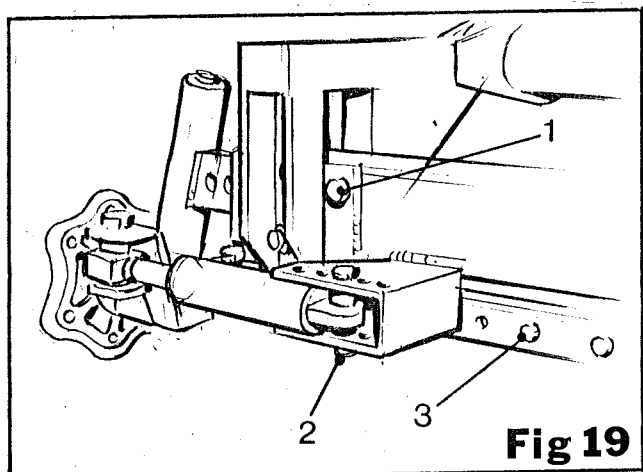

Fig 19
2. Remove axle bolt (item 1, fig 19).
3. Remove ram bolt (item 2, fig 19).
4. Remove retaining bolt (item 3, fig 19).